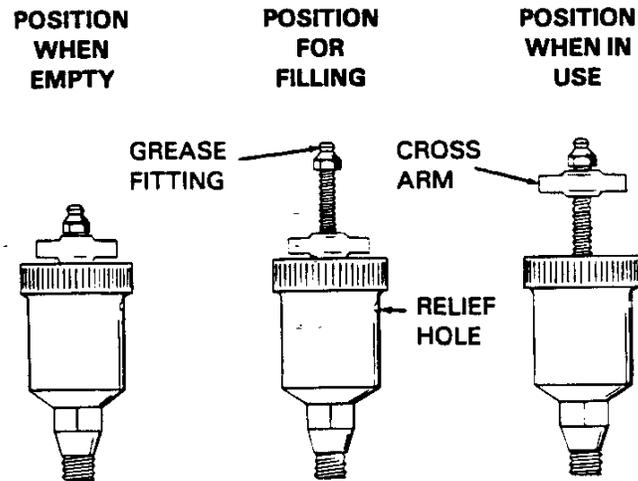

Figure 4. Automatic Lubricating Grease Cup
Turn the cross arm on the automatic lubricating grease cup (14) clockwise until it rests against the cover (see Figure 4). This will prevent the grease from escaping when the impeller is removed.
Fill the grease cup (14) through the grease fitting with No. 2 lithium base grease until grease escapes from the relief hole. Turn the grease cup arm counterclockwise until it is at the top of the stem; this will release the spring to apply grease to the seal (see Figure 4).